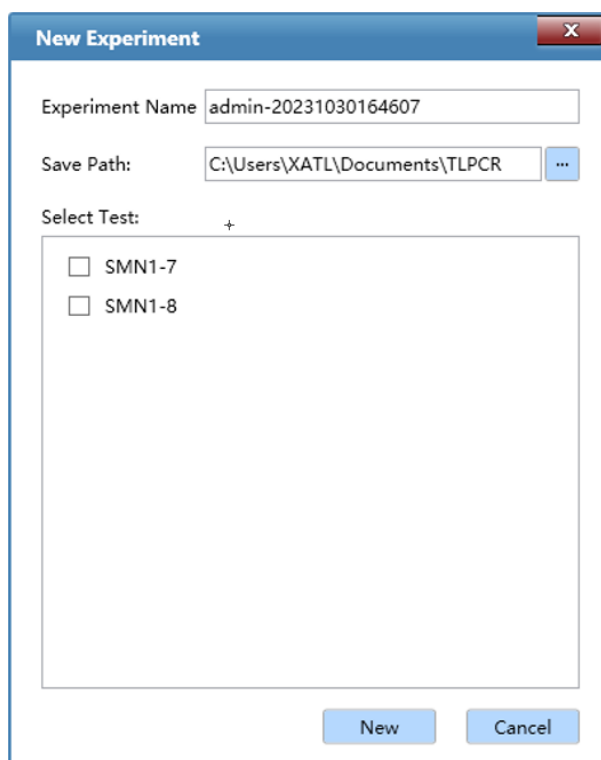

Figure D-2.1c. Quick Start Bar - New Experiment from Test Template
- Click < ***New Experiment from Test Template*** > and the new experiment window will automatically pop up, as shown in figure D-2.1c. User can input the ***Experiment Name*** and select the ***Save Path*** for the new experiment. According to the specific test item of the new experiment, user can select the test template and click < ***New*** >, the application software will create a new experiment file with same experiment settings as the selected test template.